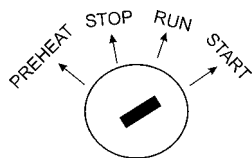

Figure 47 Engine Ignition Switch
10. Turn the ignition key to the “**START**” position (Figure 47) and listen for the engine to begin cranking. After the engine starts release the ignition key.